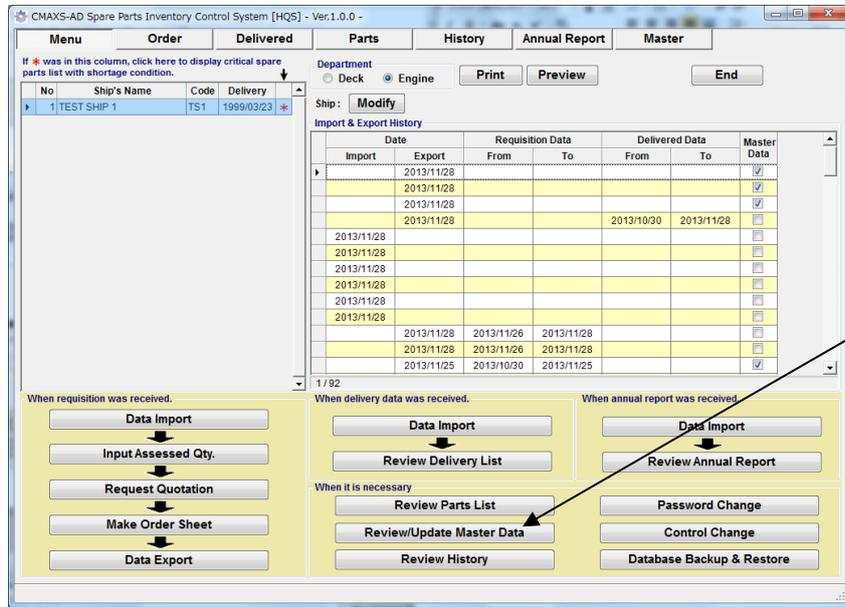

Fig.15-1 Menu Screen
(1) On the “Menu Screen”(Fig.15-1), select [Review / Update Master Data].